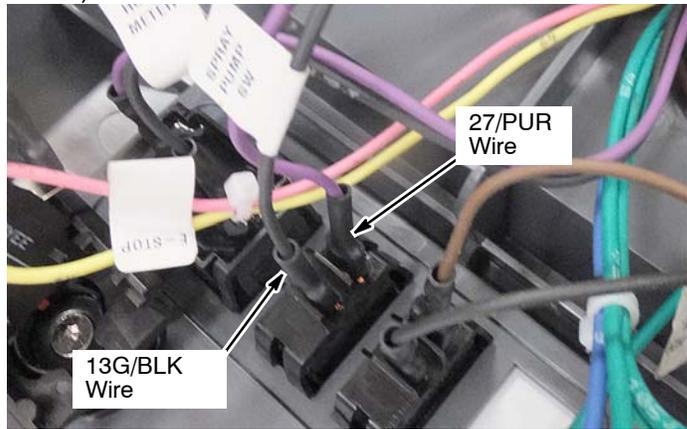

Fig. 22
4. Connect the factory installed spray pump wires, 13G/BLK and 27/PUR, to switch as shown (Figure 22).